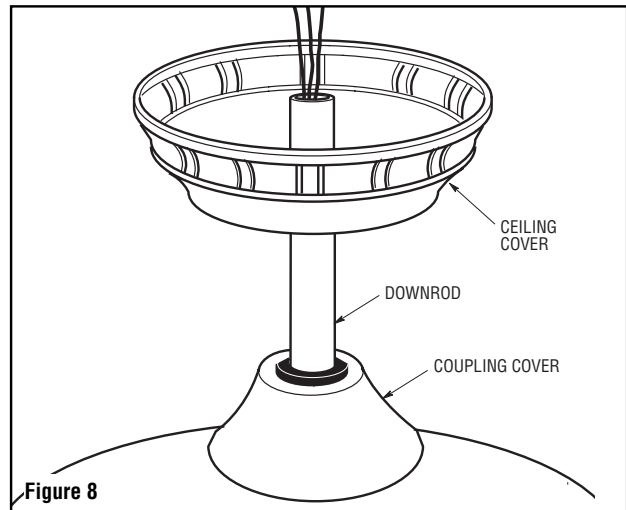

Figure 8
10. Make sure the grommet is properly installed in the coupling cover, then slide the coupling cover on the downrod until it rests on the motor housing. Place the ceiling cover over the downrod. Be sure that the ceiling cover and the coupling cover are both oriented correctly (Figure 8).